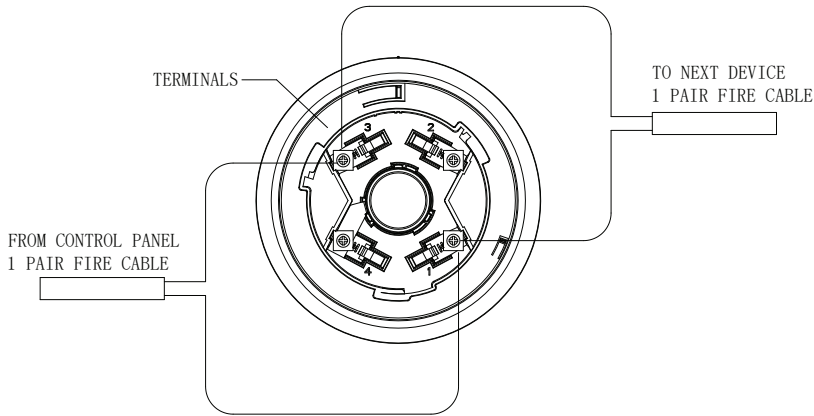

Fig.2
- 1) Wiring: See Fig.2. The Sounder Beacon Base is subject to a two-wire non-polarity connection: Terminals 1 and 3 are respectively connected with the terminals L1 and L2 of the loop bus of a compatible fire alarm control panel. Terminals 2 and 4 are respectively connected with the terminals 2 and 4 of BP-FD-AHD302 (Heat Detector) or BP-FD-ASD301 (Smoke Detector).